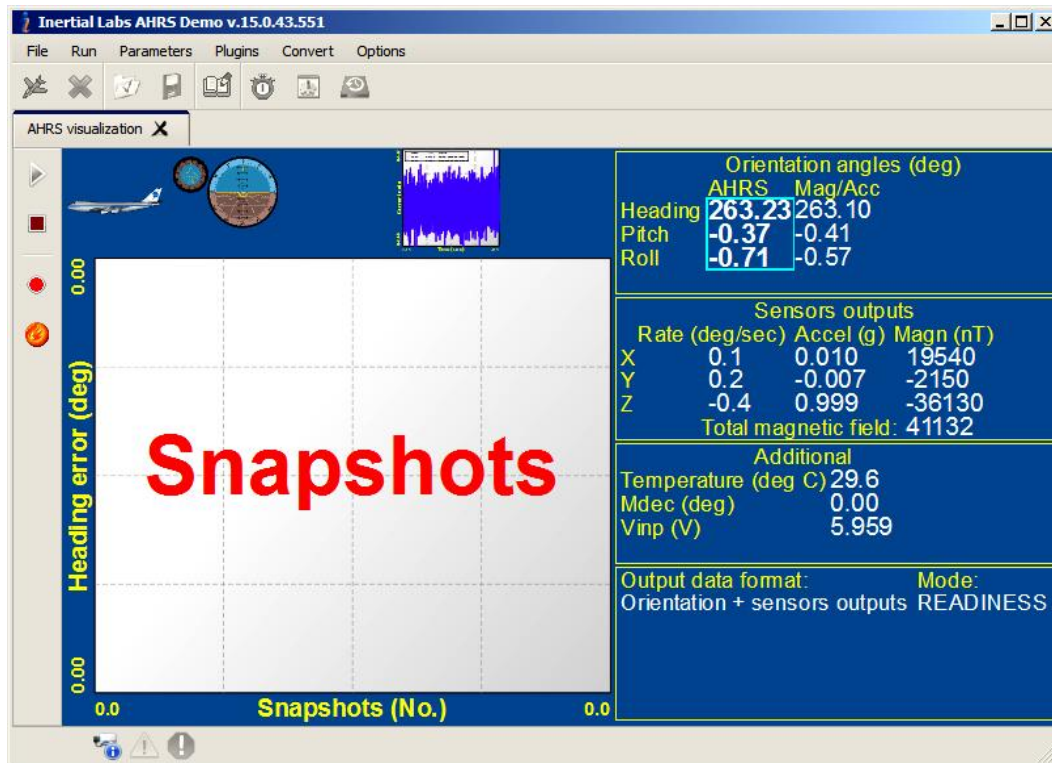

Fig. 3.6
- “**On-the-fly accuracy**” by clicking on preview shown in the Fig.3.4c and window shown in the Fig. 3.6 will appear;